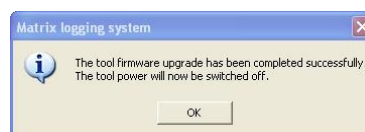

Figure 5-11 Successful upgrade
- Once the upgrade has been successfully completed (Figure 5-11), click on **OK** to turn off the tool.